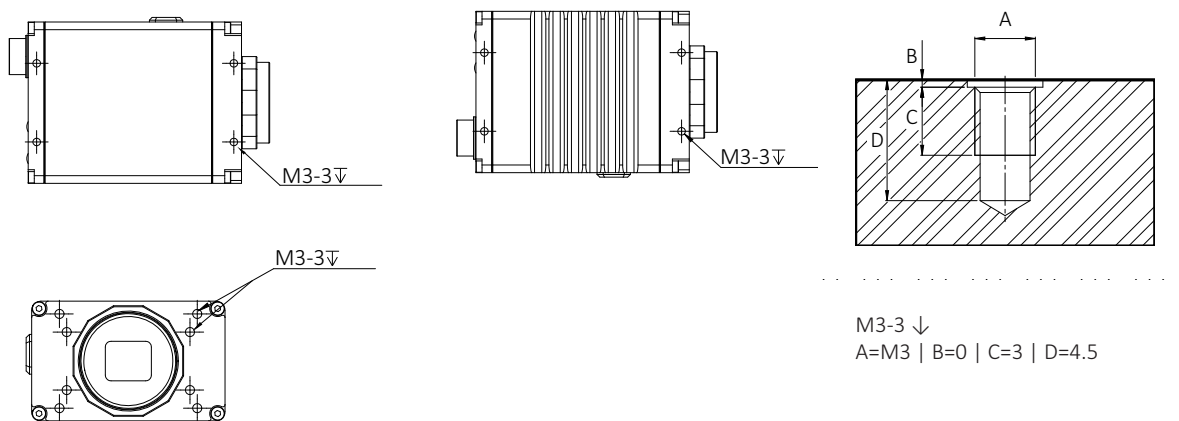

Figure 2: M3 and M2 mounting threads on Standard and Extended Format cameras
1. As shown in Figure 2, mount the camera to the base using suitable M3 screws at 0.69 Nm maximum torque for a thread engagement (C) of 3 mm between screws and mounting threads.